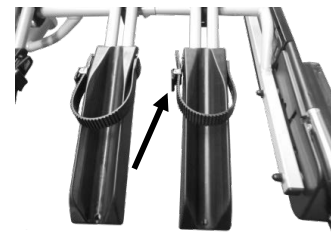

Figure 8: Installation position of closures
- Place the expansion rail on the sleeve (Figures 6 and 7). To do this, the closures must face forwards in the direction of travel (Figure 8).